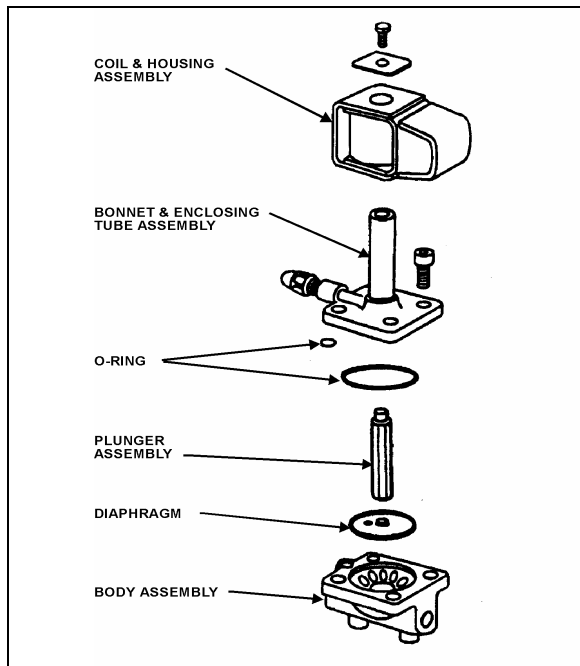

FIGURE 34: REFRIGERANT SOLENOID VALVE 22044
3. Remove the four socket head screws which hold the body and bonnet together (Fig. 34).